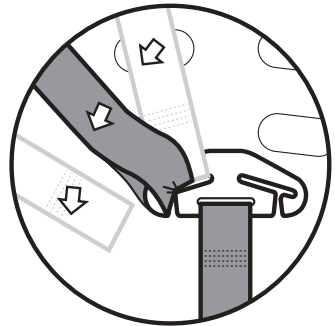

Figure 1.2
- Remove each shoulder harness through the gates in the spreader plate (see Figure 1.2).